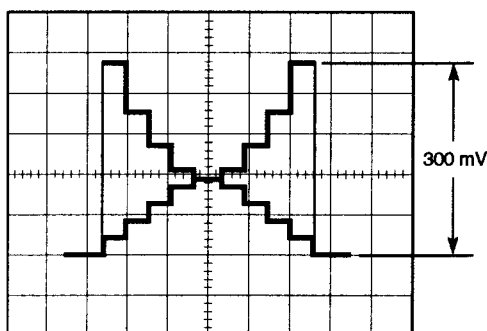

Fig. 5-1-23
- Set the Lens Iris so that the Video signal level becomes 300 mV as shown in Fig. 5-1-23.